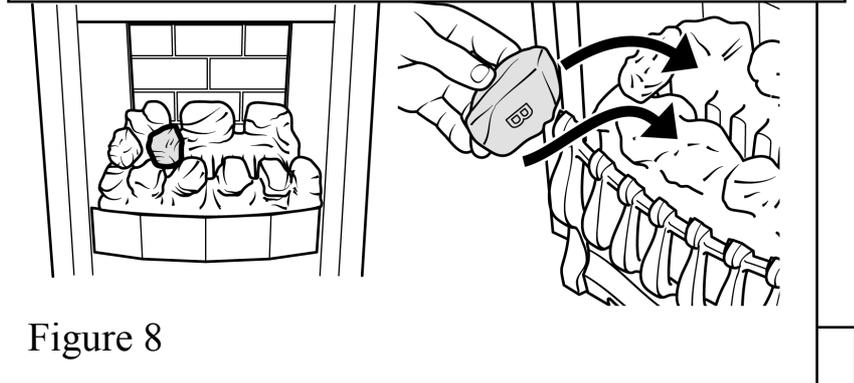

Figure 8
6. Place a type "B" coal between the front and rear base coals as shown in figure 8. The letter "B" should be upright.